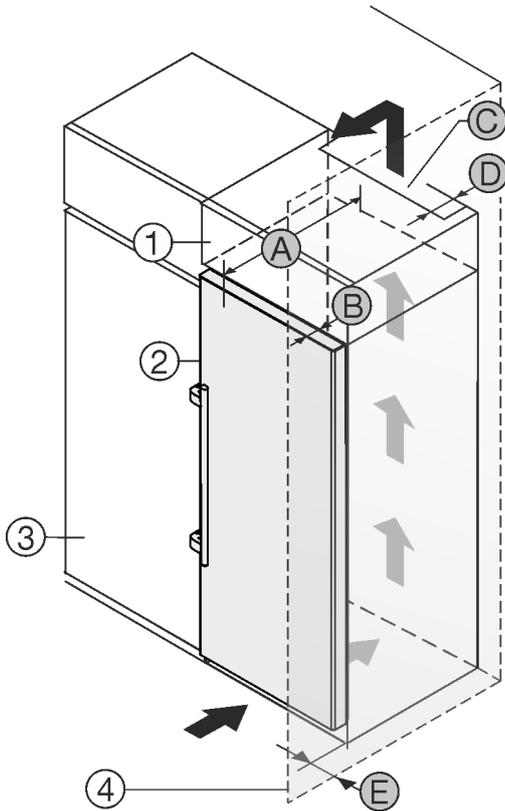

Fig. 2*
Set up the appliance directly next to the kitchen cabinet Fig. 2 (3)*.
There must be a ventilation shaft at the depth Fig. 2 (D) of the back of the top cupboard over the entire width of the top cupboard.*
The ventilation cross-section Fig. 2 (C) must be maintained under the ceiling.*
If the appliance is set up with the hinges next to a wall Fig. 2 (4), the distance between the appliance and the wall must be at least 57 mm. This is how far the handle protrudes when the door is open.*
In order to be able to fully open the door, the appliance must protrude by the depth of the door Fig. 2 (B) from the front of the kitchen cabinet. The appliance may protrude further depending on the depth of the kitchen cabinets Fig. 2 (3) and whether wall spacers are used.*